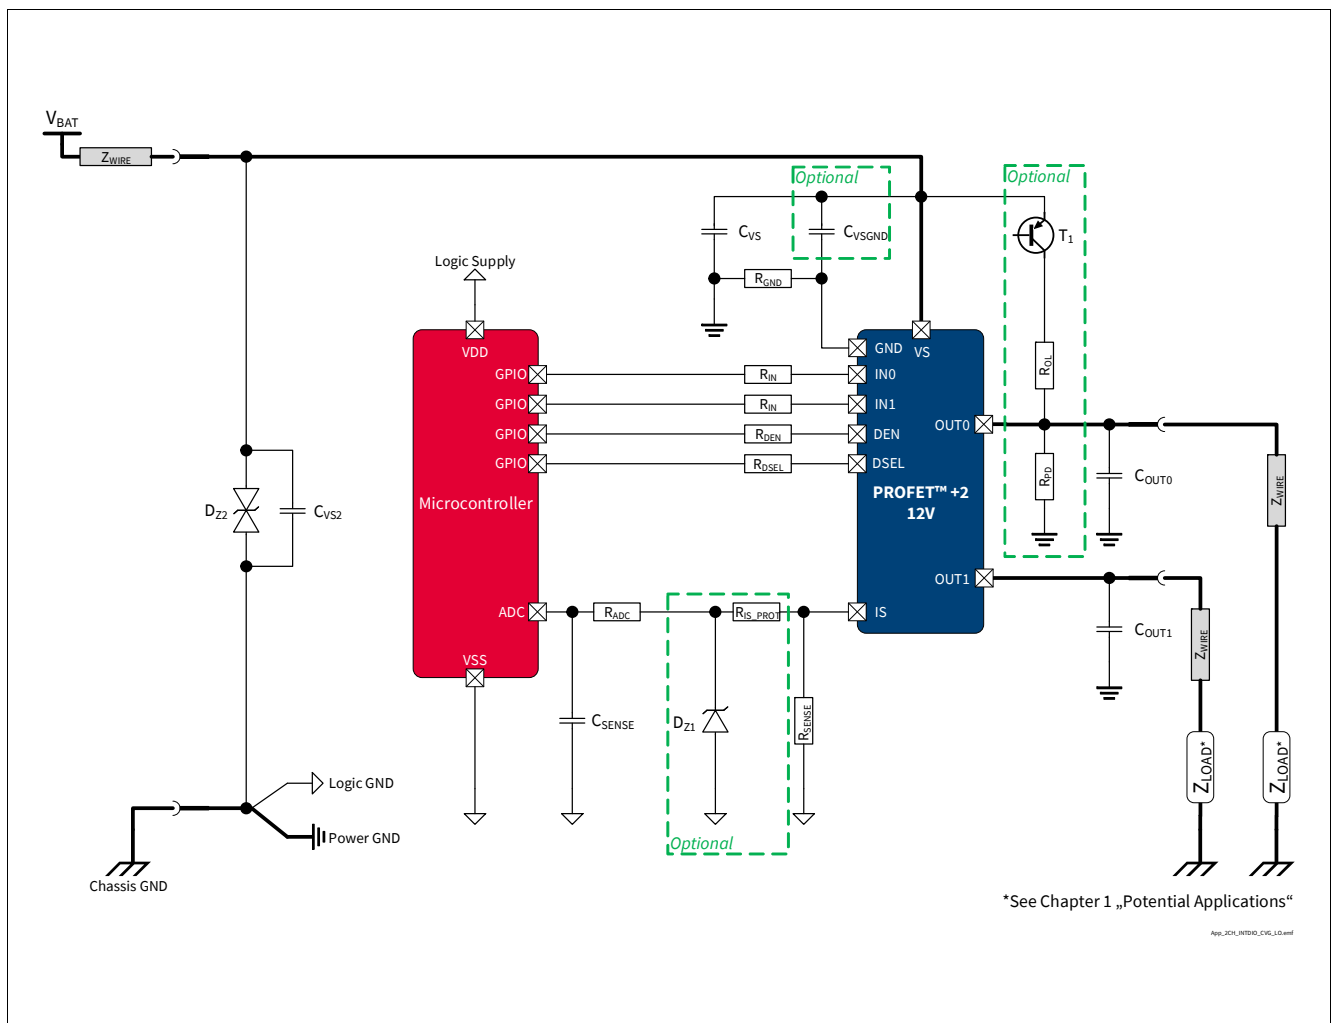

Figure 43 BTS7080-2EPA Application Diagram
1.05 , 2019-10-15	<p>P_8.7.7.1, P_8.7.7.7, P_8.7.7.8 updated (added in Note or Test Condition: link to Figure 25)</p> <p>P_7.5.7.4, P_7.5.7.5 updated (added in Note or Test Condition: DEN = “low”; link to Figure 19)</p> <p>P_7.5.7.12 updated (added in Note or Test Condition: see Figure 21; deleted unnecessary space in Symbol: dV_{OUT} / dt → dV_{OUT} / dt)</p> <p>P_8.7.7.6 updated (added in Note or Test Condition: see Figure 26)</p> <p>P_9.7.7.1 updated (added in Note or Test Condition: see Figure 34)</p> <p>P_9.7.7.5 updated (Min./Typ./Max.: -45%/1800/+45% → -28.0%/1750/+28.0%)</p> <p>P_9.7.7.6 updated (Min./Typ./Max.: -40%/1800/+40% → -25.5%/1750/+25.5%)</p> <p>P_9.7.7.8 updated (Min./Typ./Max.: -35%/1800/+35% → -23.5%/1750/+23.5%)</p> <p>P_9.7.7.12 updated (Min./Typ./Max.: -26%/1800/+26% → -19.0%/1750/+19.0%)</p> <p>P_9.7.7.15 updated (Min./Typ./Max.: -11%/1800/+11% → -9.8%/1805/+9.8%)</p> <p>P_9.7.7.17 updated (Min./Typ./Max.: -6%/1800/+6% → -6.0%/1805/+6.0%)</p> <p>P_9.7.7.19 updated (Min./Typ./Max.: -5%/1800/+5% → -4.5%/1805/+4.5%)</p> <p>P_7.5.7.11 updated (added in Note or Test Condition: see Figure 19)</p> <p>Figure 1, Figure 43 updated</p> <p>Chapter 1 updated (or LED equivalent → or equivalent electronic loads (e.g. LED modules))</p> <p>P_4.3.0.7 added</p> <p>Table 24 updated</p> <p>Chapter 5.1 updated (added: see Chapter 10 for the complete application setup overview)</p>